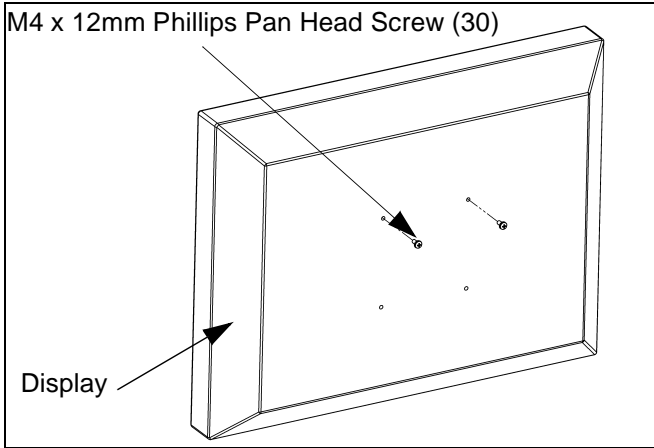

Figure 6: Prepare Display
1. Install two M4 x 12mm Phillips pan head screws (160) into two upper mounting holes in display back. (see Figure 6)